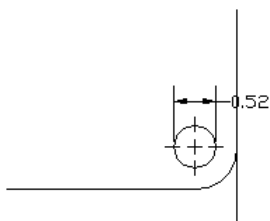

**Figure 15-15:** A narrow dimension using the Text option.
- ♦ **Text:** If there isn't enough room for the text and the arrows between the extension lines, the text goes outside and the arrows go between them. Figure 15-15 shows a dimension using this option.